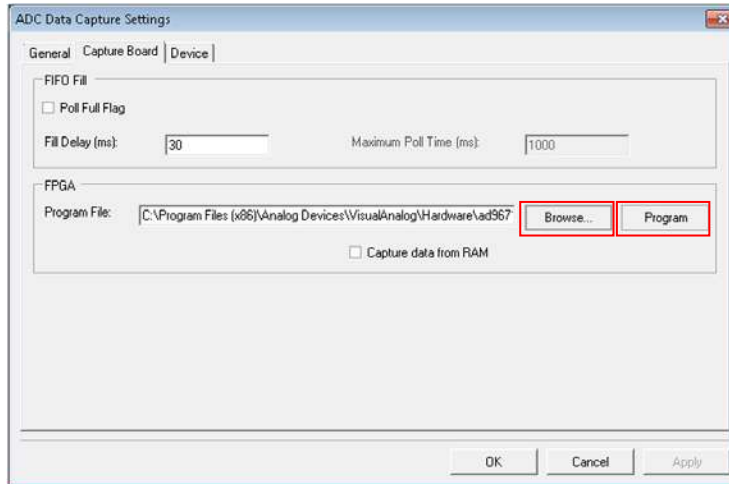

Figure 6. FPGA Programming Section
5. To reprogram the FPGA after VisualAnalog starts, click the **Settings** button in the ADC data capture block on any canvas, as marked with the red box in Figure 5. In the **Capture Board** tab in the **ADC Data Capture Settings** window shown in Figure 6, click **Browse**, select the bin file **ad9671_evalez06132014_0921am.mcs**, and then click **Program**. After the file loads, the CONFIG_DONE LED illuminates on the data capture FPGA board. Click **OK** to close the window.